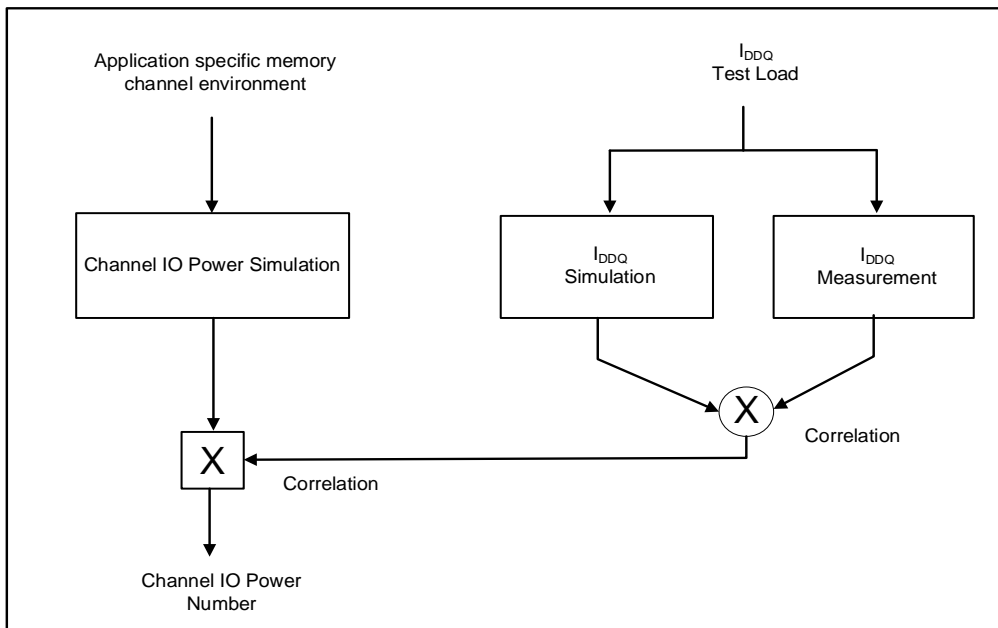

Figure 9-2. Correlation from Simulated Channel I/O Power to Actual Channel I/O Power Supported by  $I_{DDQ}$  Measurement
**Attention:** IDDQ values cannot be directly used to calculate I/O power of the DDR3 SDRAM. They can be used to support correlation of simulated I/O power to actual I/O power as outlined in Figure 9-2. In DRAM module application, IDDQ cannot be measured separately since VDD and VDDQ are using one merged-power layer in Module PCB.